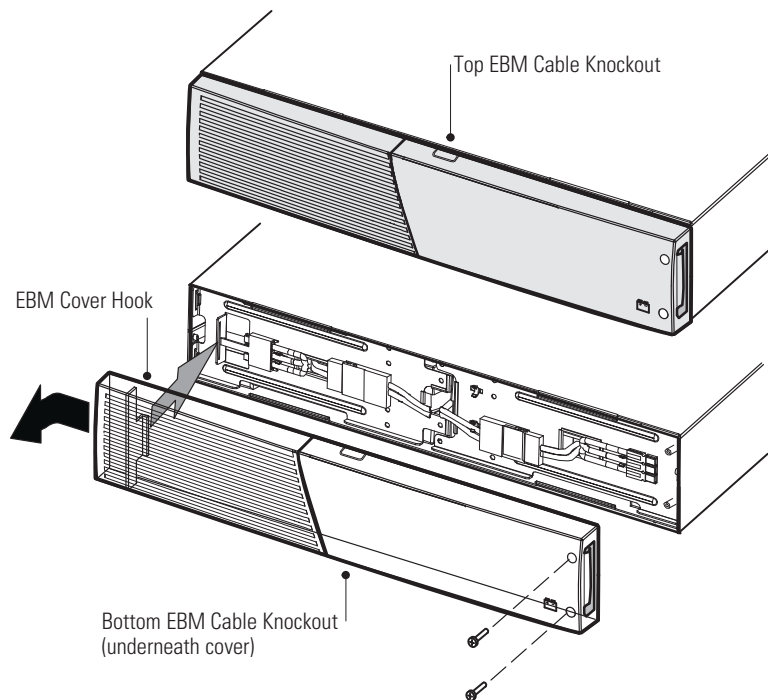

Figure 27. Removing the EBM Front Cover
1. Remove the front cover of each EBM. See Figure 27.
5. Remove the front cover of each new EBM. See Figure 27.
6. For the bottom (or only) EBM, remove the EBM cable knockout on the top of the cover. See Figure 27 for the location of the top EBM cable knockout.
7. If you are installing more than one new EBM, for each additional EBM remove the EBM cable knockout on the top **and** bottom of the EBM front cover. See Figure 27 for the location of the EBM cable knockouts.
To replace the cover, verify that the EBM cables are routed through the EBM cover knockouts, then slide the cover from the left to the right until it connects with the cover hook near the left side of the EBM cabinet. Reinstall the two screws on the right side of the front cover. For reference, see Figure 27 on page 53.